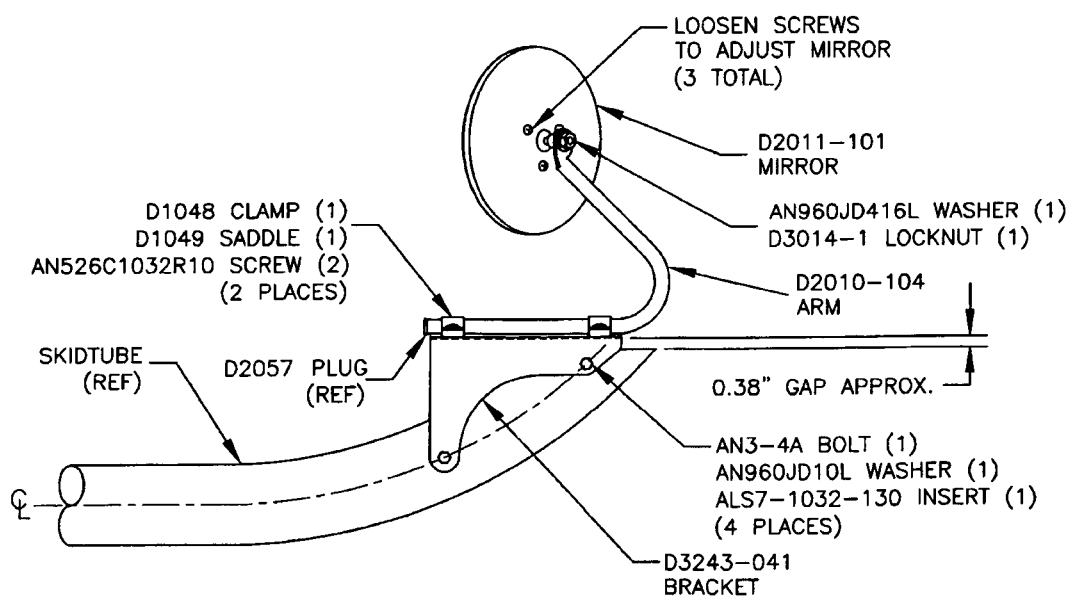

Figure 2 - Cargo Mirror Installation (SIDE VIEW)
1. Locate the D3243-041 Bracket with approximately 0.38" (10mm) space between the top of the skidtube and the bracket, as shown in Figure 2. Transfer drill the 4 holes from the bracket to the centerline of skidtube and enlarge to 10/64" (Ø0.297"). Deburr holes and wet install ALS7-1032-130 inserts using MIL-P-85582 or MIL-P-23377 primer.
2. Install the D3243-041 Bracket on the skidtube using the AN3 hardware. The bolts should be sealed with Sikaflex-241/-291 or Proseal 890 or MIL-S-8802 Class 'B2' sealant before installing as per Figure 2.
3. Install remaining hardware per Figure 2 as required. Adjust the angle of the D2010-104 Arm and tighten the AN526C1032R10 screws to secure arm.
4. To adjust the mirror: loosen (DO NOT REMOVE) the three adjustment screws shown in Figure 2, reposition the mirror, then tighten the screws.